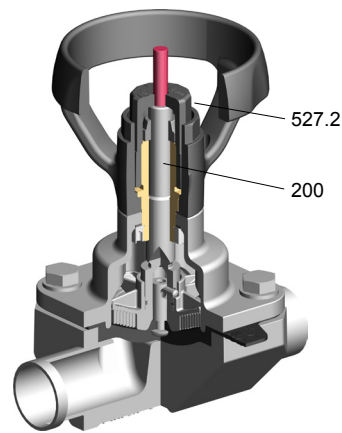

Figure 8: SISTO-C HV.510/.520
1. Take the valve to the required position. Turn the locating sleeve [527.2] clockwise until it abuts the stem [200] (see Fig. 8).